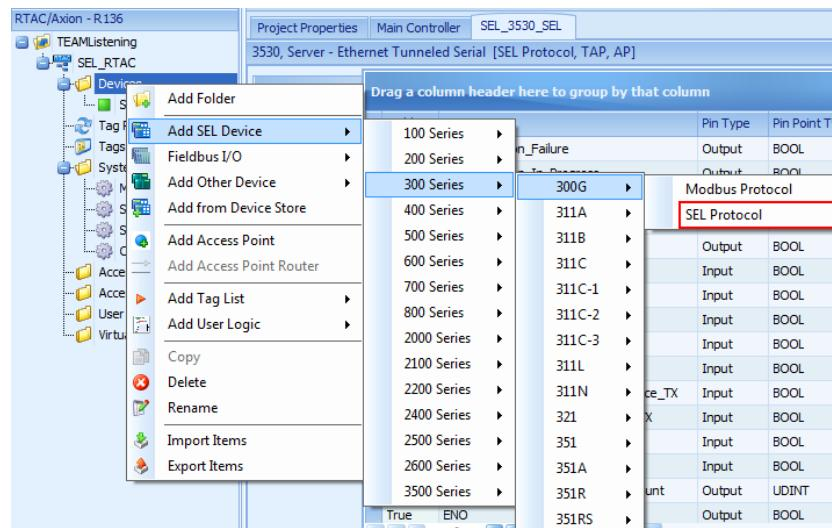

Figure 129 Add an SEL-300G With SEL Protocol
Step 8. Configure the settings of the relay (the SEL-300G in this example). From the **Insert** tab, add a **300G** with **SEL Protocol**, as shown in *Figure 129*.